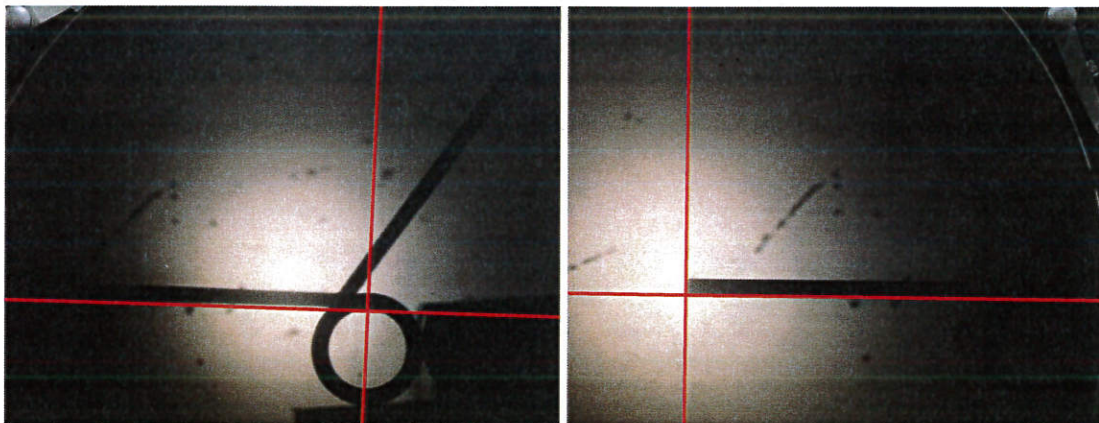

Figure 10: Measuring Leg Length 1, shown with enhanced axis lines.
6.2.6. Leg Length 1. Measure the Inside Diameter of the coil as described in step 6.2.2, using half of the Coil ID, move the axis readout to centre of the coil, zero the X axis by use of the red button as shown in Figure 2: measure from the centre of the coil to of the end of Leg 1, as shown in Figure 10: Press the button to enter the value as shown in Figure 2: